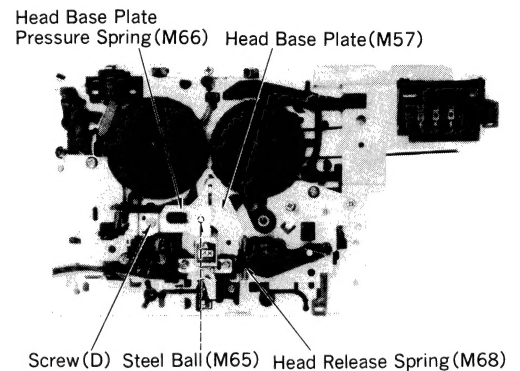

Fig. 3
In this case, take care not to lose steel ball (M65). (fig. 3)
2. With head release spring (M68) removed, head base plate (M57) can be detached. (fig. 3, 4)